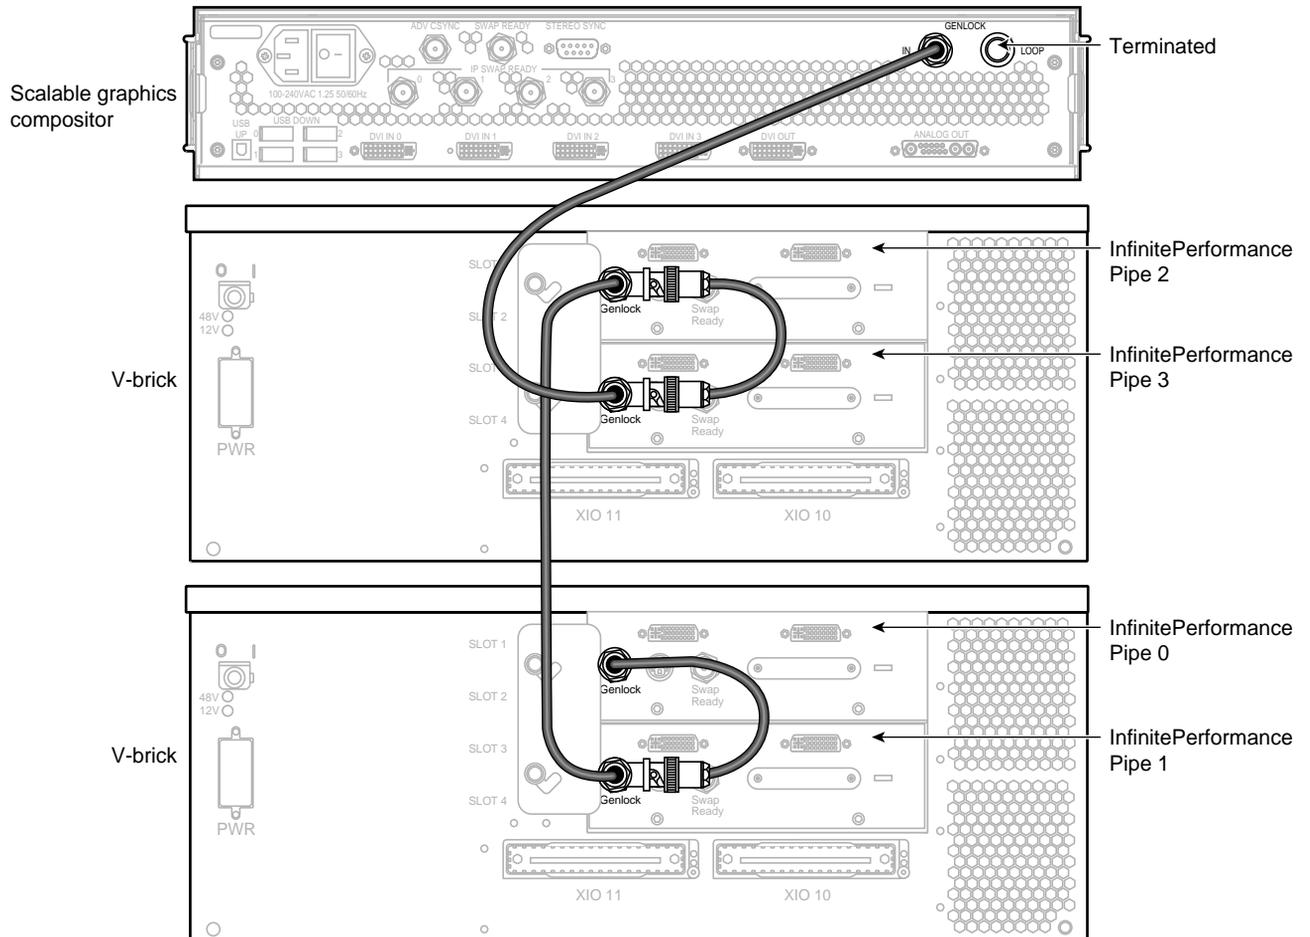

Figure 3-13 Connecting the Genlock Connectors
6. Using the 75-ohm BNC cables and BNC L connectors, daisy-chain the InfinitePerformance genlock connectors to each other in the following order (as shown in Figure 3-13): pipe 0 to pipe 1, pipe 1 to pipe 2, pipe 2 to pipe 3, and pipe 3 to GENLOCK IN.